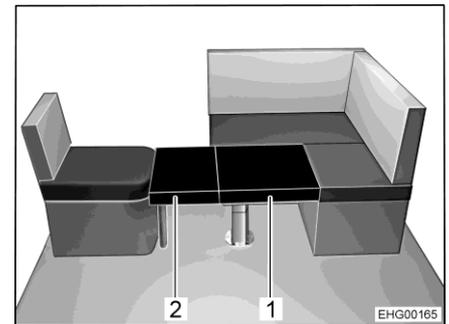

Fig. 111 After conversion
Together with the individual seat on the side and the shiftable lift-off table, the L-seating group can be converted into an additional bed. Two additional cushions are needed to create the lying surface. One of the additional cushions (Fig. 111,2) is equipped with a fold-out footrest and an angle bracket. The other additional cushion (Fig. 111,1) is placed on the table top.
- Fold footrest out on the smaller additional cushion (Fig. 111,2).
- Hook angle bracket of the additional cushion (Fig. 111,2) into individual seat and place additional cushion on the table top.
- Place the second additional cushion (Fig. 111,1) on the table top.